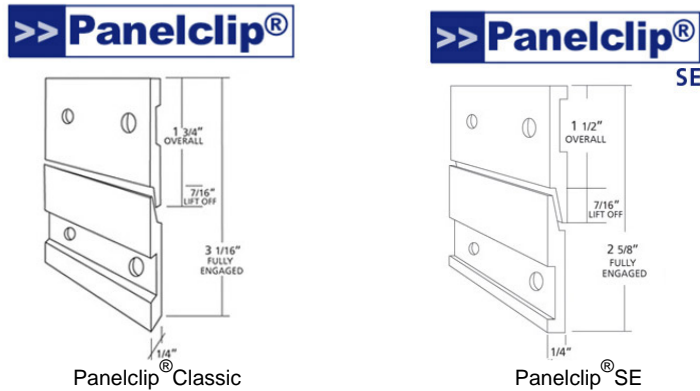

Figure 2 – Clips recommended by Fibersin.
- B. Two types of clips: Panelclip®Classic, Panelclip®SE, figure 2.